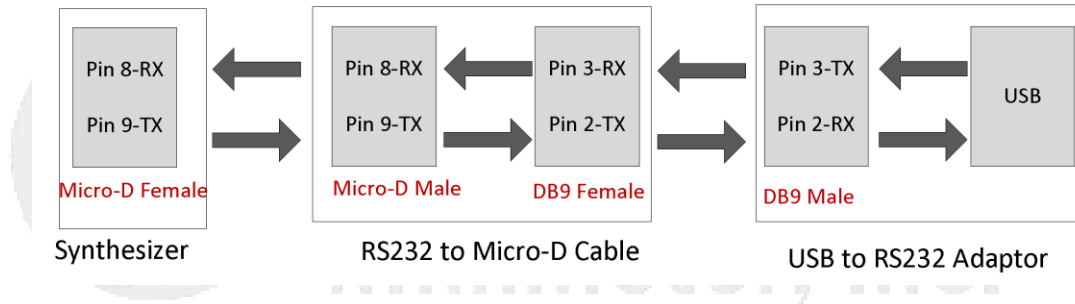

Figure 2. Connecting interface block diagram
- Follow schematic shown in Figure 2 to connect the computer and synthesizer so that the communication can be established via Eravant provided GUI program.